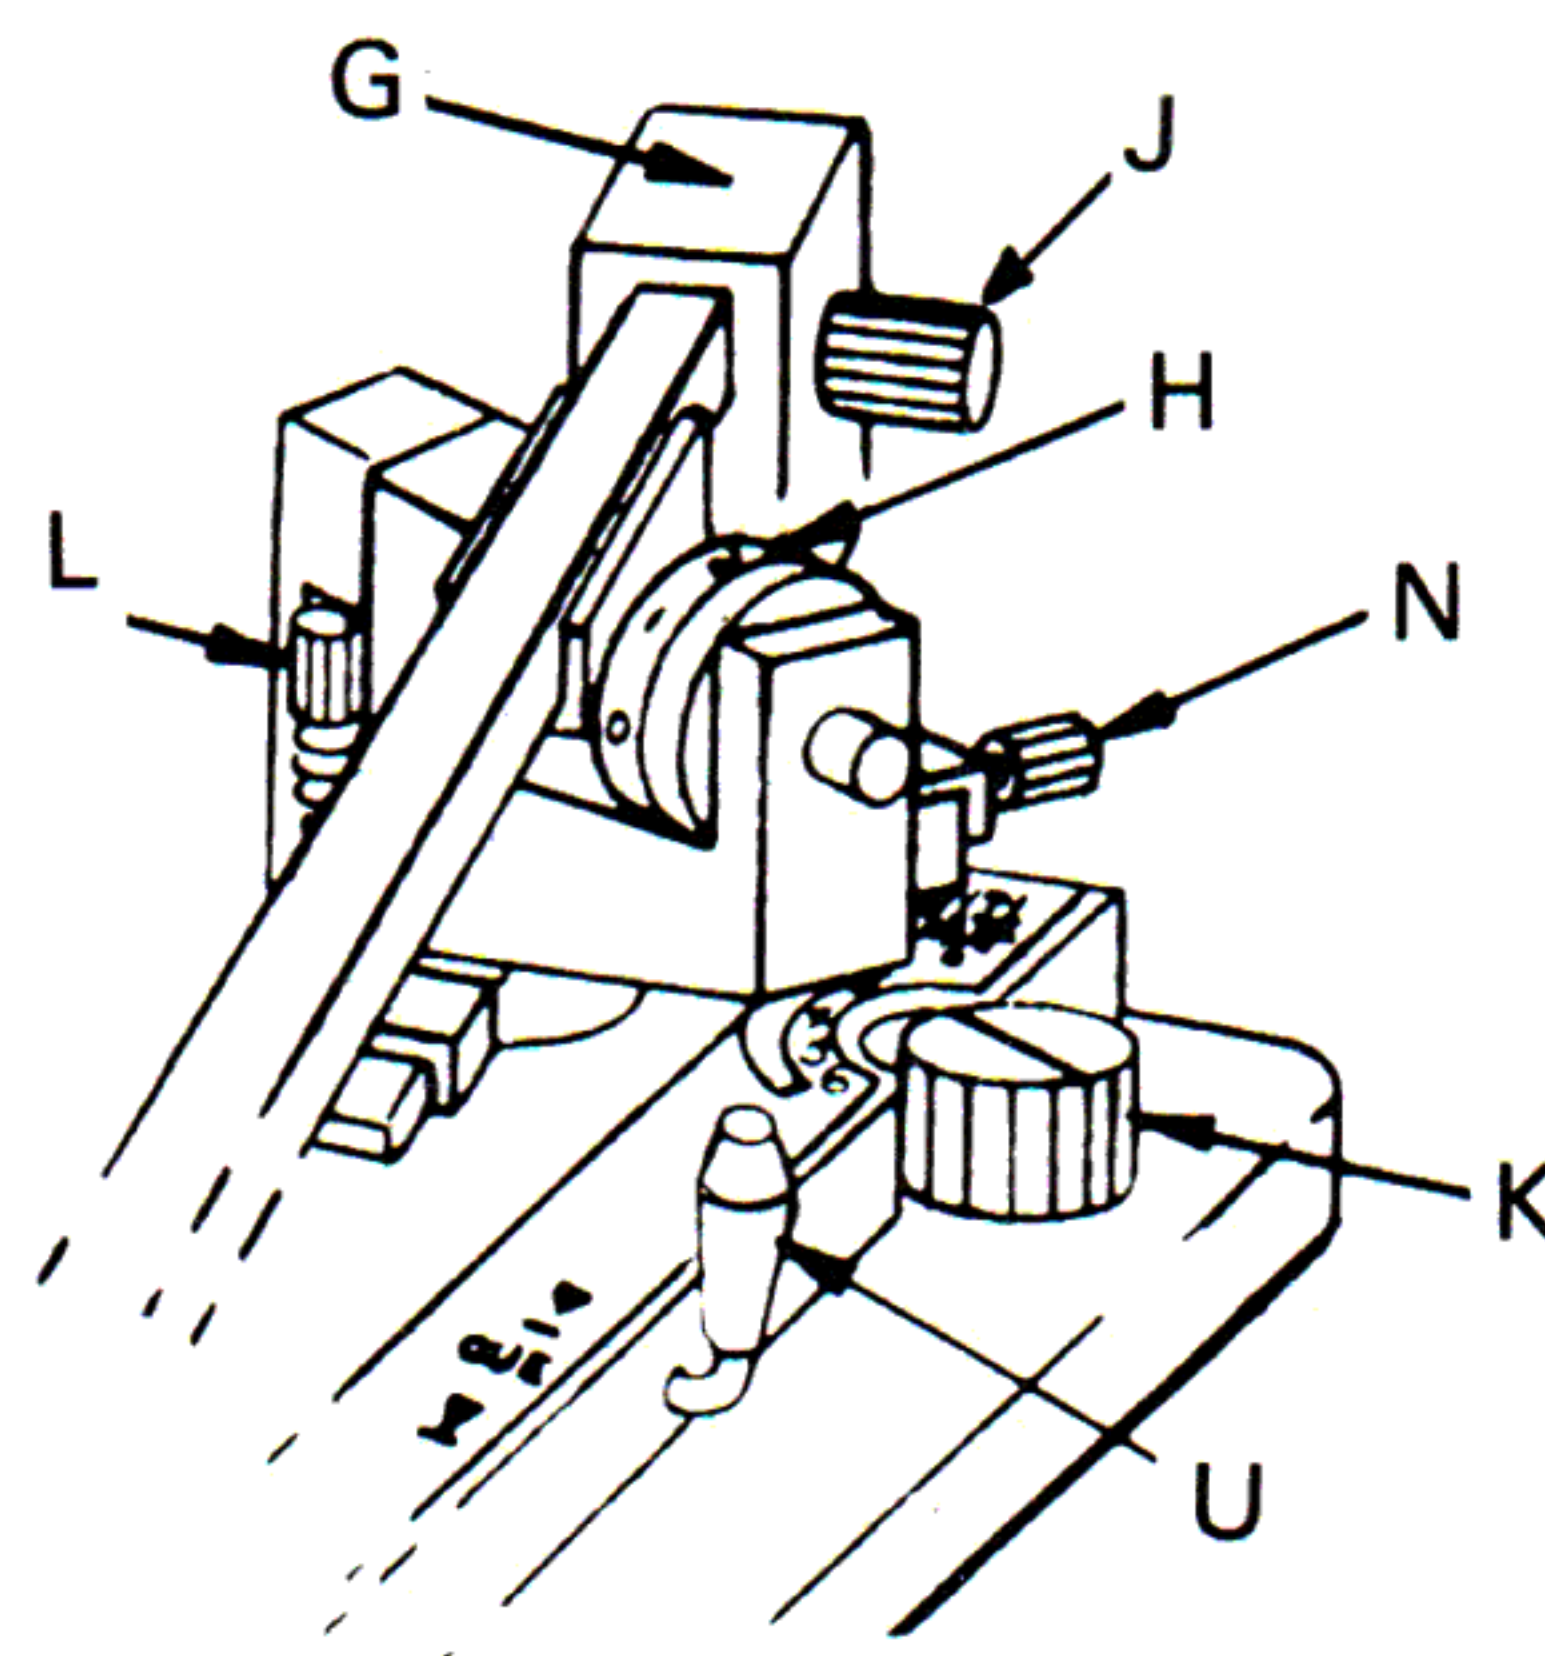
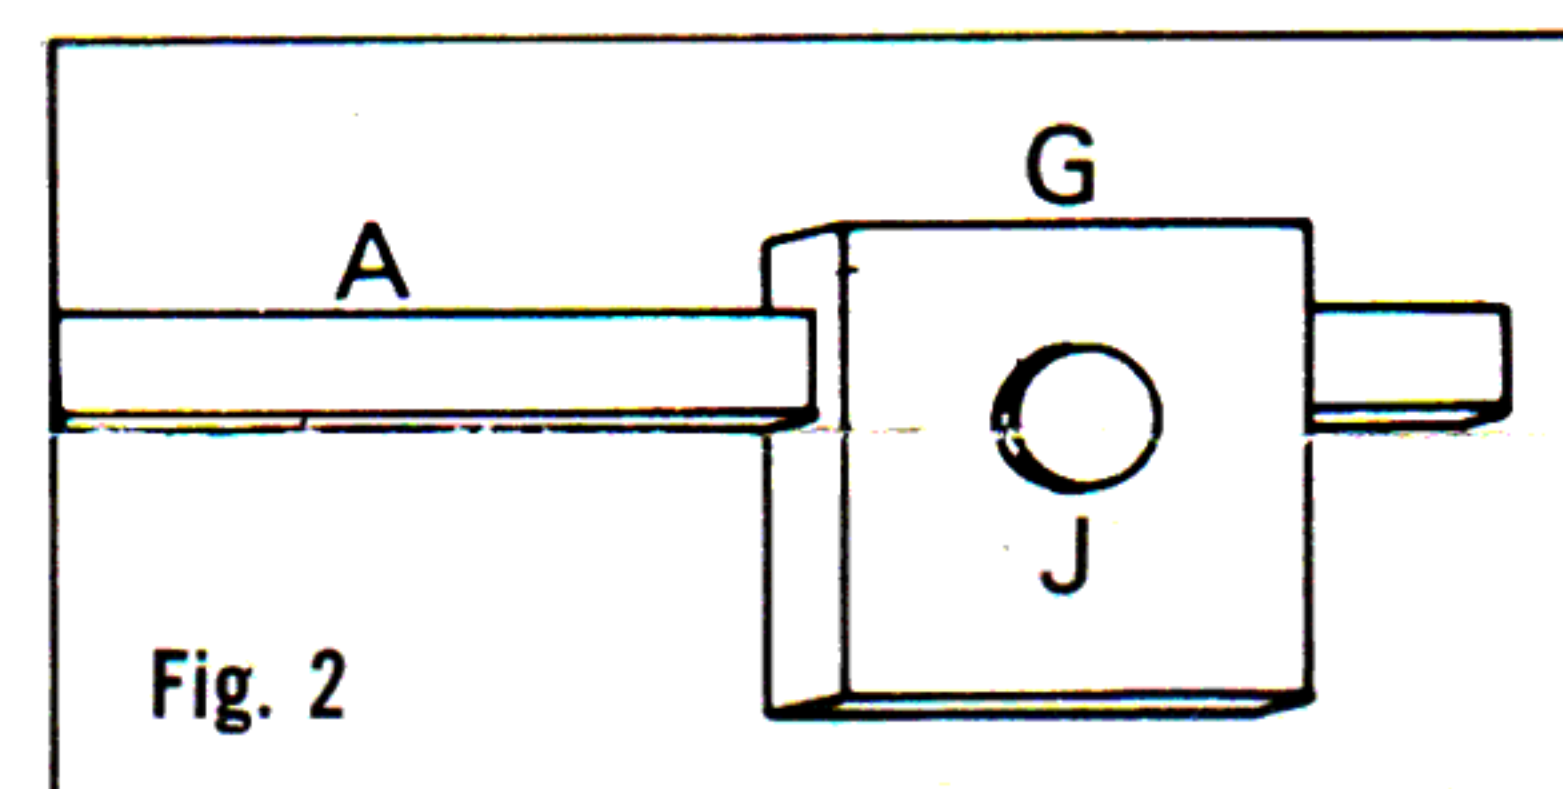

Fig. 1
Fig. 2
### 1. PICKUP ARM BALANCE (Refer to Fig. 1 & 2.)
- Place counter balance weight "G" on rear of tonearm as shown in Fig. 1. Be certain that knob of counter weight points to the right side of unit and that the larger portion is hanging below the tonearm. Fig. 2.
- Rotate stylus pressure dial "H" Fig. 1, until "0" coincides with marked line on pickup body.
### 2. STYLUS PRESSURE (Refer to Fig. 1.)
### 3. ANTI-SKATE CONTROL (Refer to Fig. 1.)
### 4. TONE ARM HEIGHT (Refer to Fig. 1.)
### 5. STYLUS SET DOWN (Refer to Fig. 1.)
### CUEING LEVER AND PAUSE CONTROL (Refer to Fig. 1.)